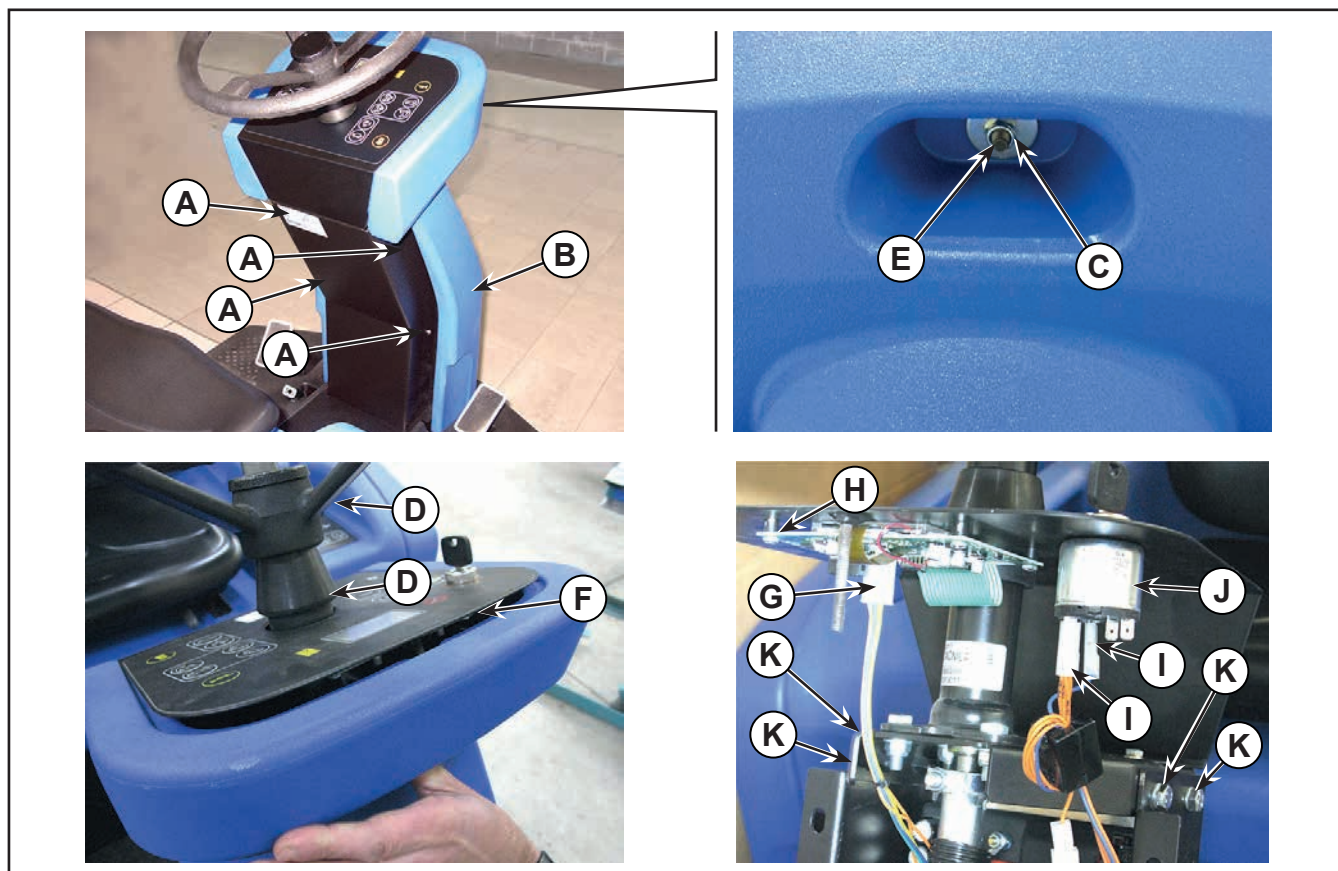

Figure 13
5. Unscrew the four screws (A, Figure 13) fastening the fairing (B).
6. Unscrew the nut (C) on the front.
7. Slide the sleeve (D) until it is flush on the steering wheel.
8. Press the stud (E), sliding it upwards (causing the Main Control Board (F) to lift slightly, then remove the fairing (B) by disengaging it from its seat and the stud (E).
9. Disconnect the electrical connection (G) from the Display Controller (H).
10. Disconnect the electrical connections (I) from the ignition key assembly (J).
11. Unscrew the four screws (K) on the Main Control Board support.